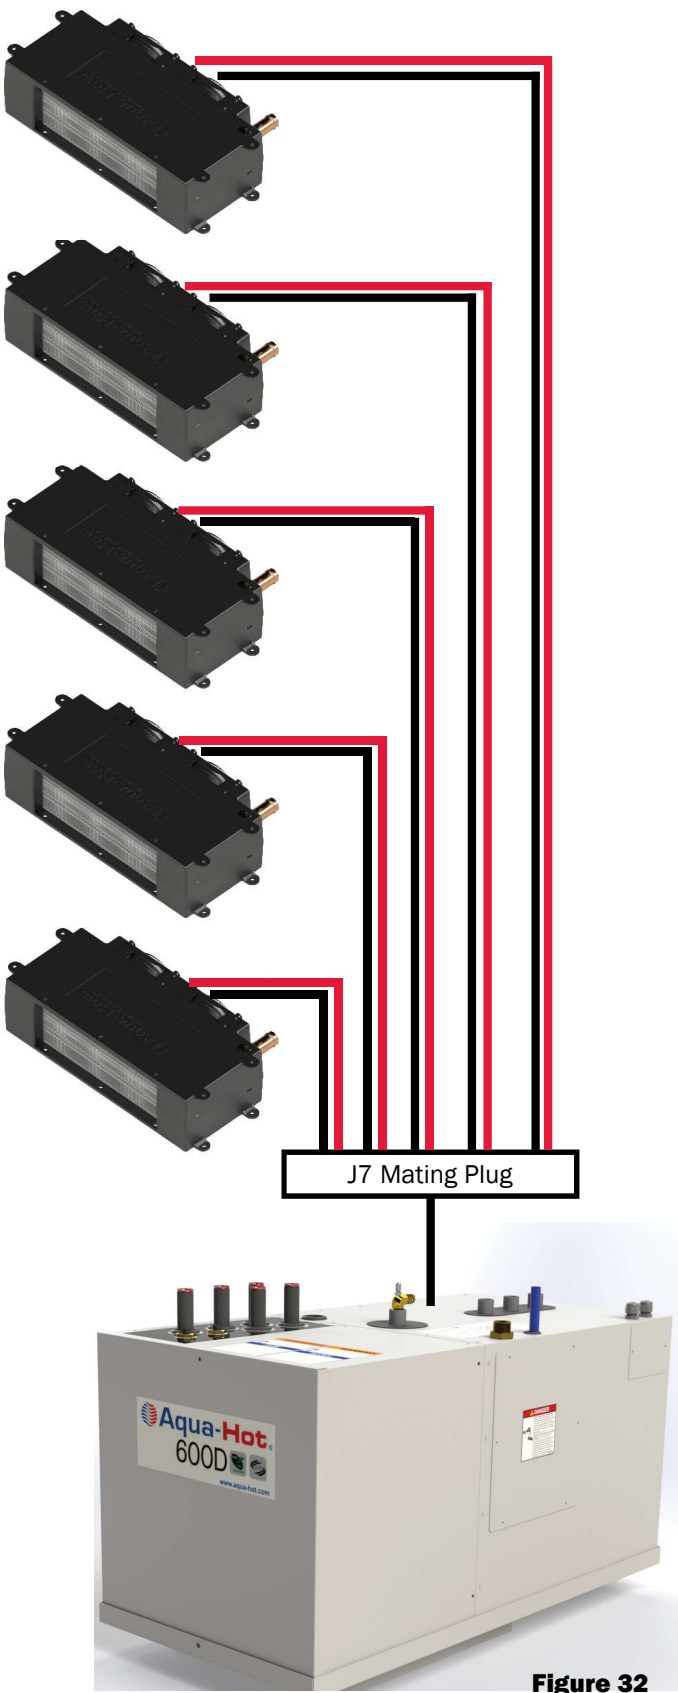

Figure 32
- 1. Wire each heat exchanger (in a heating zone) in parallel to one another as shown in Figure 32.